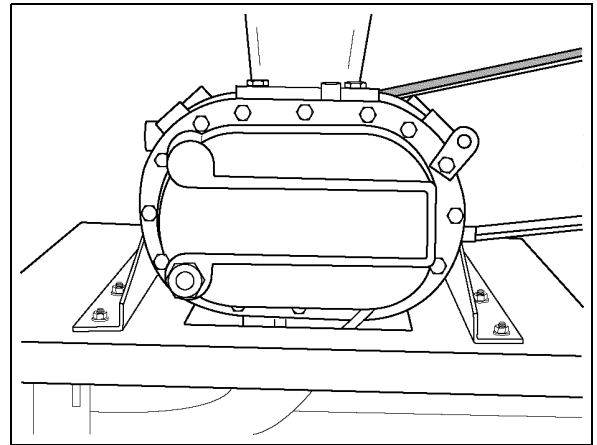

Figure 7G
7. The oil level should be at the center of the sight glass on the blower. Add part number MS5389 if required. DO NOT Operate Blower Until Correct Oil Level is Indicated! The 4" roots blower has sight glasses on both ends. Be sure oil levels are indicated on both sight glasses. (See *Figure 7G*).